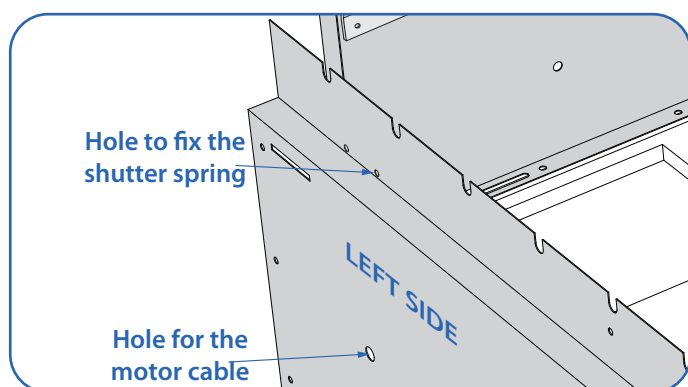
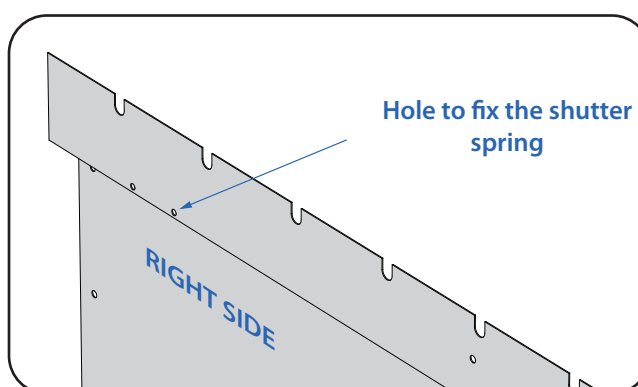

Fig.13. Detail of the left side.
Fig.14. Detail of the right side.
- The holes of the sides where we will assemble the shutter springs later on, shall remain closer to the roof than to the floor (Fig. 13 and Fig. 14).
- Another way to identify the left side is to pay attention to the hole where we will get the motor cable through it (Fig. 13).